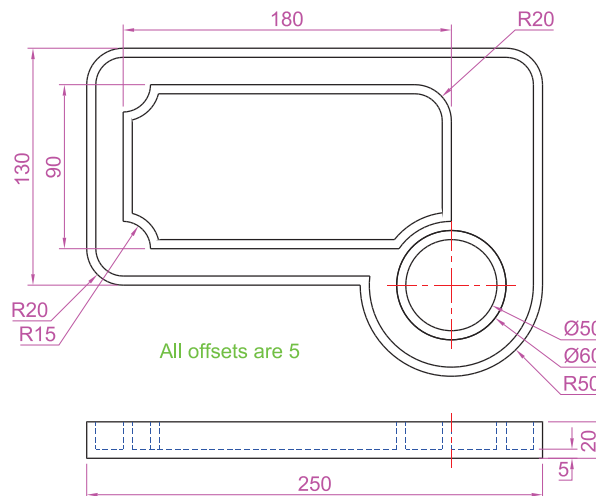

Fig. 18.11 Sixth example – Copy faces tool – details of the 3D solid model
1. Construct a 3D model to the sizes as given in Fig. 18.11.